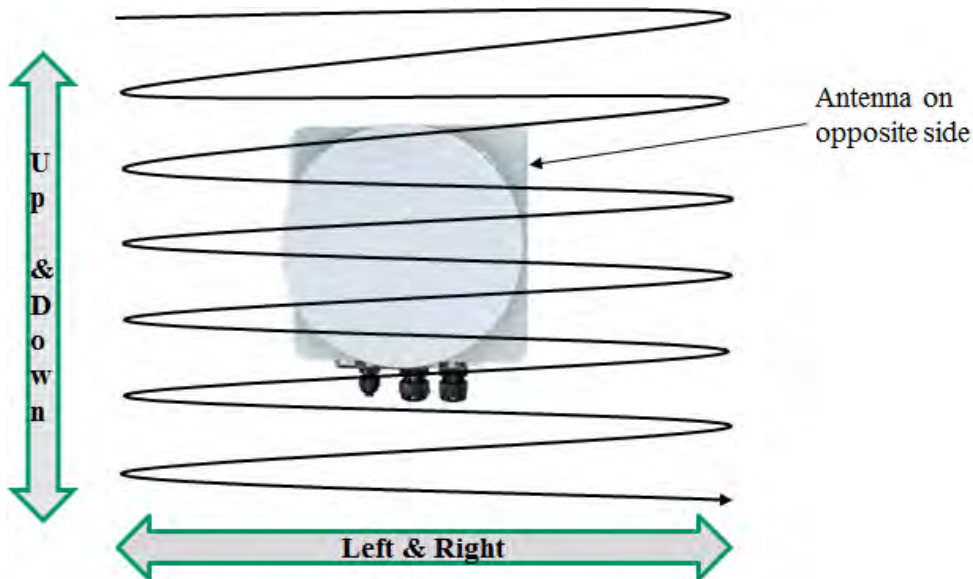

Figure 5-6: Antenna alignment scan
9. To align the system turn the Azimuth and Elevation Adjustment Screws at each antenna left/right for best azimuth alignment and up/down for best elevation alignment and observe the voltmeter or Android software reading. The goal is to find the maximum RSSI voltage reading (lowest negative voltage) on both sides of the link. Using a meander-like scan pattern has proven to be the most efficient way to align the antennas. This is illustrated in Fig. 5-6.